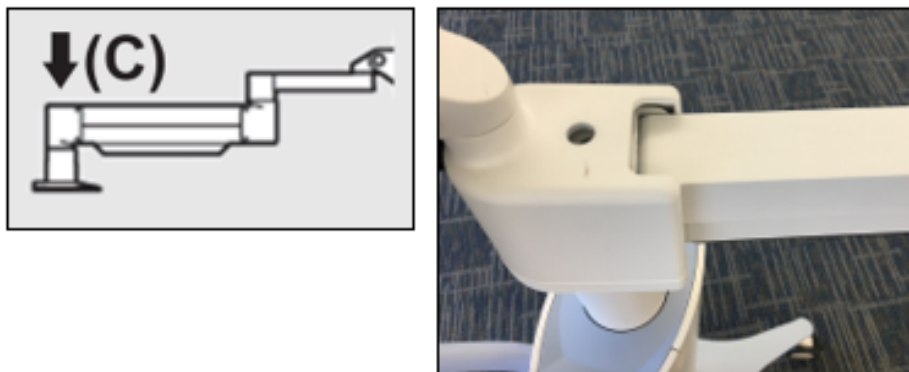

Figure 4-7. Set Arm Tension with Strength Adjustment Screw C
- Set the arm tension with the **Strength Adjustment Screw C**. Use a 7/32 Allen Wrench and turn the Screw C counter clockwise until the arm just begins to move slowly upward. There should be a slight bounce-back when the arm is lightly tapped down after adjustment. See Figure 4-7.